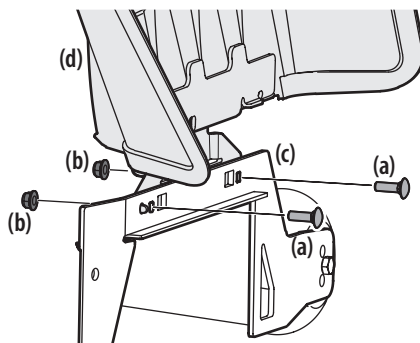

Figure 1
1. Remove the carriage screws (a) and flange lock nuts (b) installed on the mounting bracket (c) on the deck. See Figure 1.
2. With the previously removed hardware (a & b), install the discharge chute deflector (d) on the deck as shown in Figure 1.